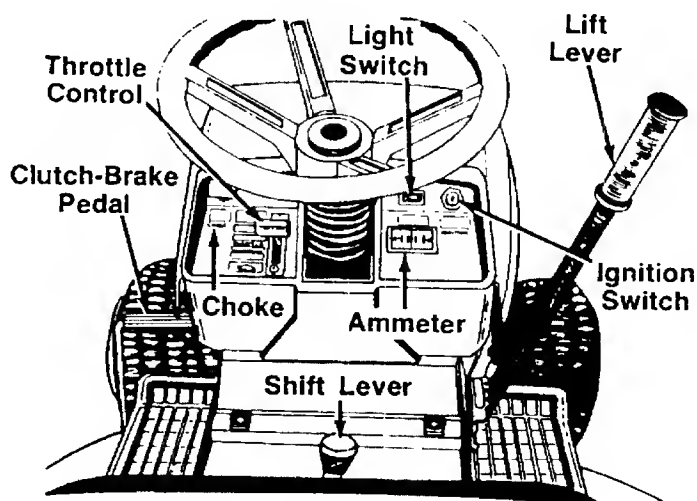

FIGURE 11.—Model TMO-33942A Shown
The throttle control is used to regulate the engine speed. To get maximum efficiency from cutting, the throttle should be in the FAST position when operating the mower. See figure 11.
The choke control is located on the dashboard and is operated manually. Details for the choke operation are covered in the separate engine manual packed with your unit. See figure 11.
The shift lever is located in the center of the console and has three positions, FORWARD, NEUTRAL and REVERSE. See figure 11. The clutch-brake pedal must be depressed and the lawn tractor must not be moving when shifting gears. Do not force the shift lever. Release the clutch-brake pedal slightly to line up the shifting collar in the transmission. Then try to shift gears.
Turn the key to the START position to start the engine. When the engine is running, let the key return to the ON position. To stop the engine, turn the key to the left to the OFF position and remove it to prevent accidental starting. See figure 11.
Push the light switch to turn on the lights. The lights will only operate when the engine is running. See figure 11.
The ammeter registers the rate of battery charge or discharge. The ammeter will register on the discharging side when starting the engine. It should register on the opposite side (charging) when the engine is running in the fast position until the battery is completely charged. With a fully charged battery or with the engine idling, the ammeter will not show a charge. See figure 11.
The clutch-brake pedal is located on the left side of the lawn tractor. Depressing the clutch-brake pedal part way disengages the clutch. Pressing the pedal all the way down disengages the clutch and engages the disc brake. See figure 11.
3. Place the lift lever in the DISENGAGED position. See figure 11.
4. Set the throttle control in the FAST position. See figure 11.
6. Turn the ignition key to the START position. When the engine is running, let the key return to the ON position. See figure 11.